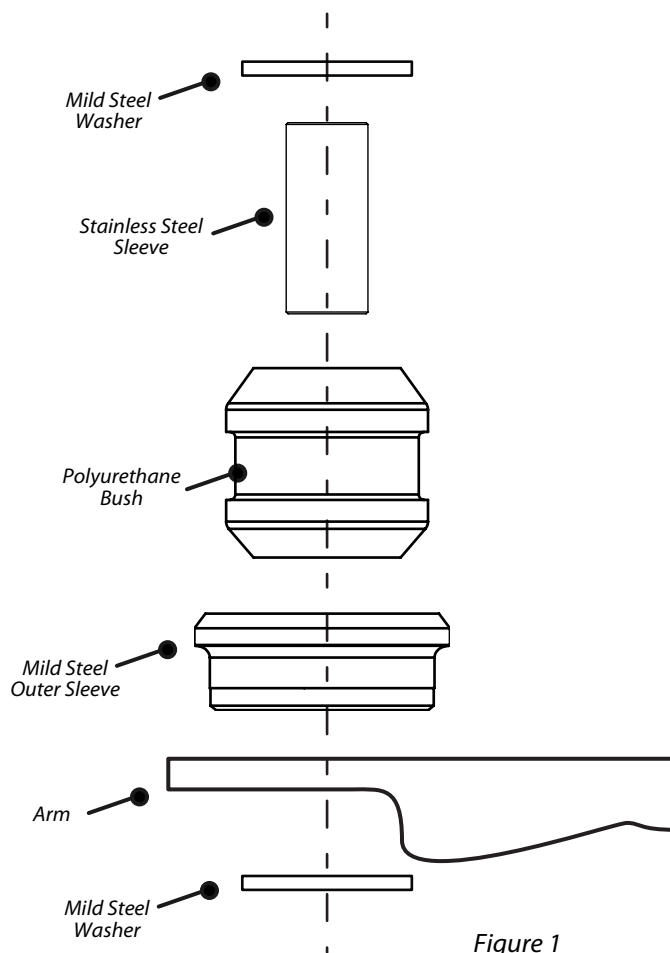

Figure 1
7. Ensure that the washers are fitted and correctly seated on the outside face of each bush prior to final torquing of any fixings, as shown in figure 1.